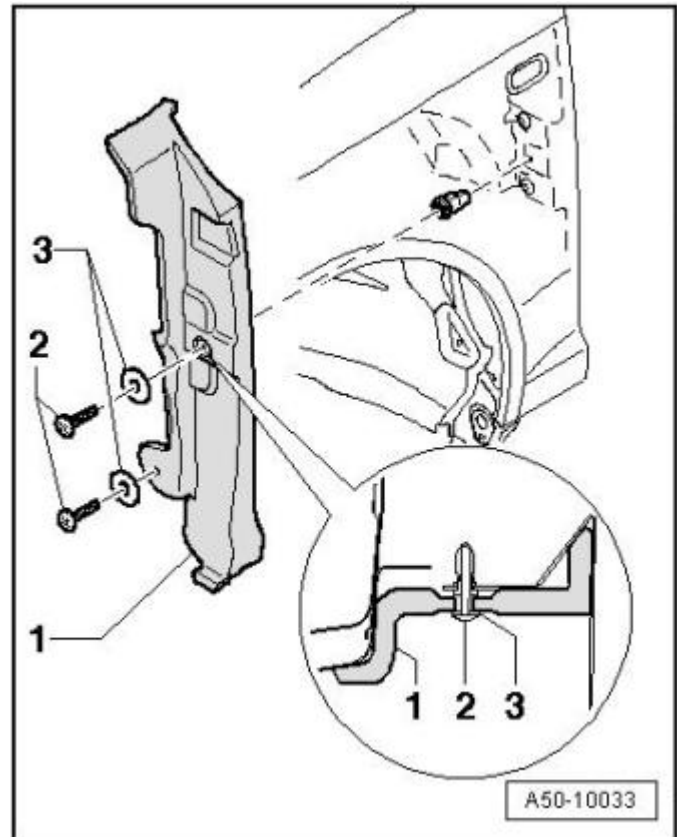

Figure 1: The front fender. Refer to *ELSA repair manual* for front fender assemble overview.
4. Unscrew bolts (Figure 1, Point 2) from expanding clip (Figure 1, Point 3).
Tip: Tightening torque for bolts (Figure 1, Point 2) is 1.5 Nm.